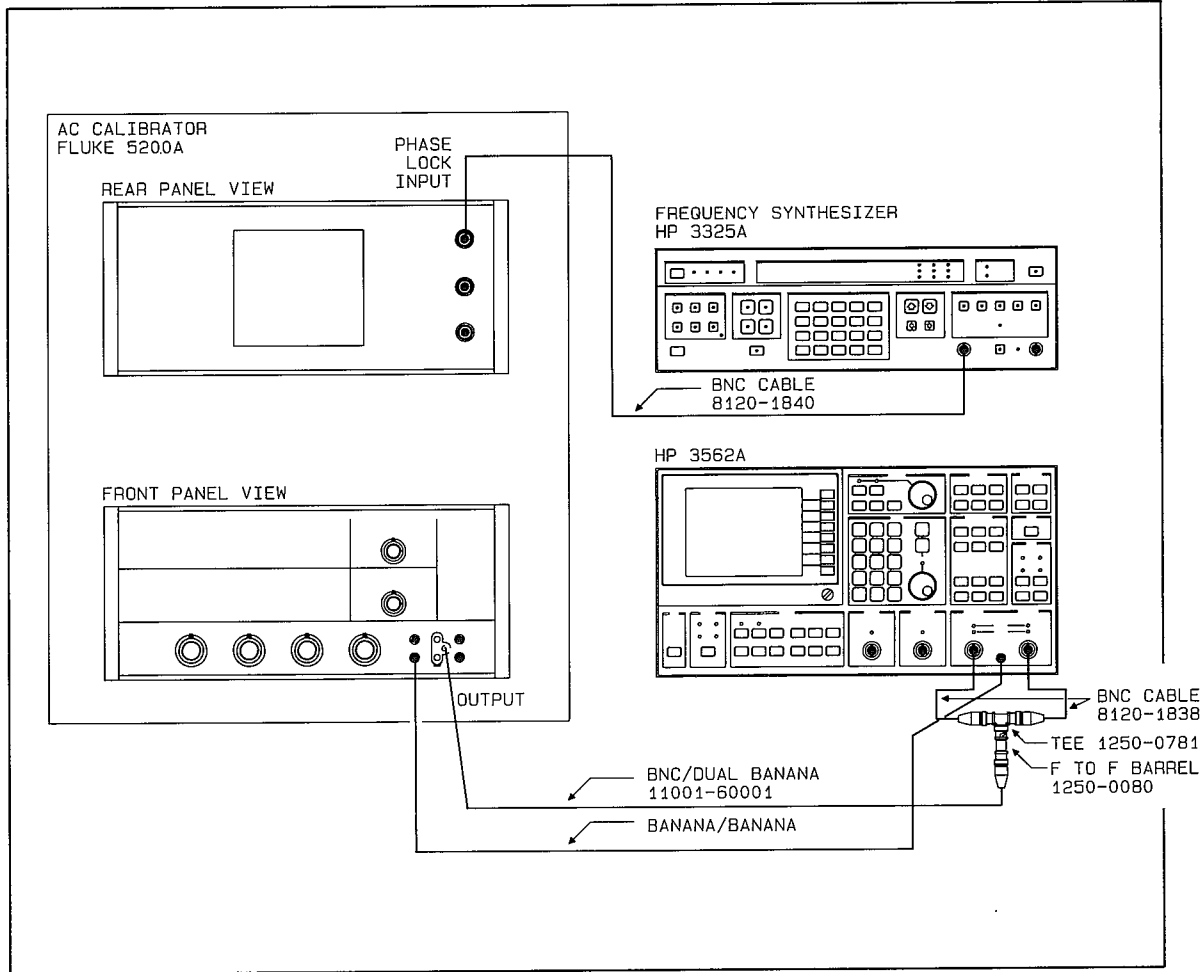

Figure 2-13 Amplitude Linearity Test Setup
- A. Connect the test instruments as shown in figure 2-13. Refer to "Initial Equipment Setup," paragraph 2-20, for unspecified parameters.